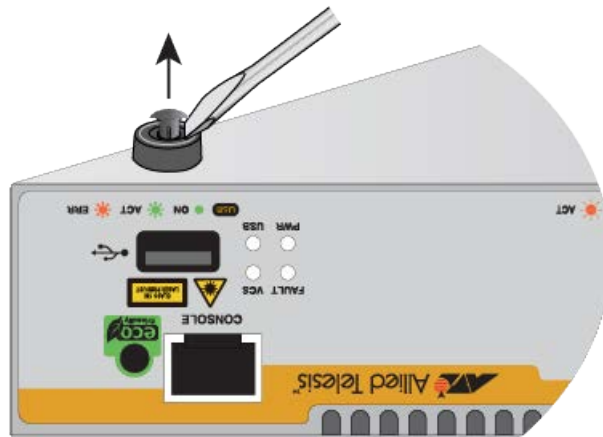

Figure 16. Removing the Bumper Feet
2. Use a small flat-head screwdriver to gently pry the rivet from the bumper feet. See Figure 16.